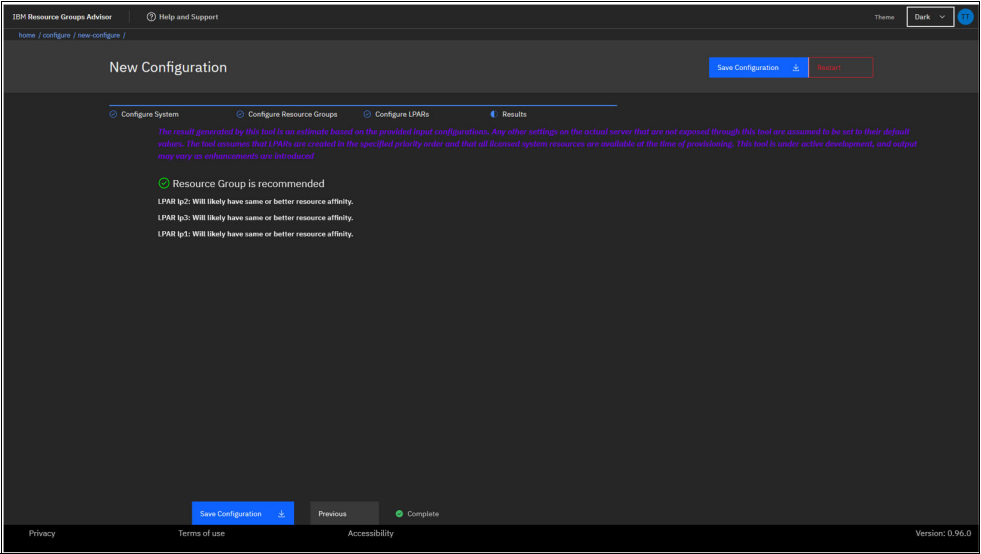

Figure 9-12 Output from the tool
9. After entering all of the LPAR information, press **Submit** to get the model’s output similar to what is shown in Figure 9-12.